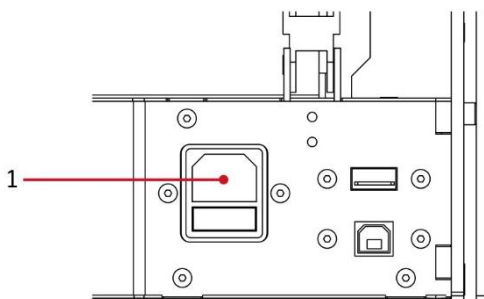

Fig. 28. Location of power inlet socket (1)
2. Place the device on a flat and stable surface and connect it to the power source with the use of power cable. Power inlet socket is located at the rear of the device (fig. 28).